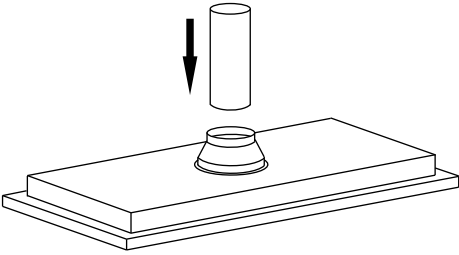

Fig 10
2. Mount the rigid ducting onto the plastic connector of the hood (Fig 10).